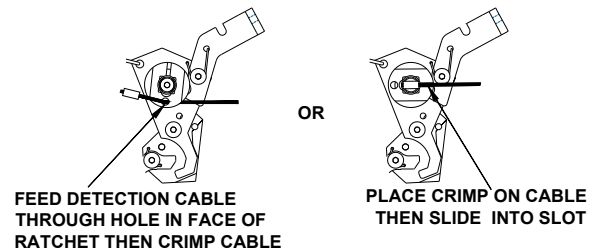

Figure 4-41.
Option #1: Slide the detection cable through the hole in the fusible link ratchet wheel and crimp the end of the cable, making sure to leave enough free cable to allow for two complete wraps around the ratchet wheel when the line is tensioned. See **Figure 4-41**.
Option #2: Install a crimp at the end of the fusible link cable and insert the crimp in the center slot of the fusible link ratchet wheel. It is not necessary to use the hole provided in the fusible link ratchet wheel when this method is used. Make sure to leave enough free cable to allow for two complete wraps around the ratchet wheel when the line is tensioned. See **Figure 4-41**.
3. The cable can now be attached to the Gas Valve Ratchet in the same manner that the fusible link line was connected to the fusible link line ratchet. See **Figure 4-41**.